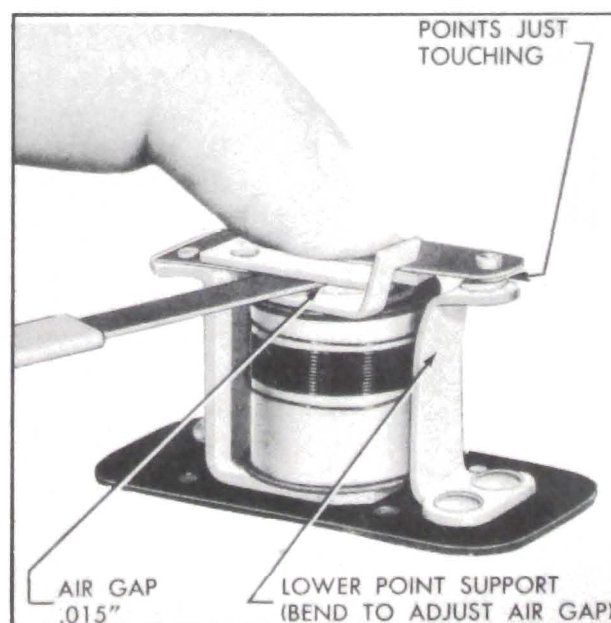

Figure 10-114—Horn Relay Air Gap Adjustment
3. Connect positive lead of ammeter to horn terminal and negative lead to battery terminal on cranking motor solenoid switch. See figure 10-114. NOTE: *Ammeter leads must be at least #10 gauge wire to avoid excessive voltage drop.*
4. Connect positive lead of voltmeter to horn terminal and negative lead to ground on horn collar. See figure 10-114.
2. Push relay armature down until contact points just touch, then check air gap between armature and end of core using feeler gauges. Air gap should be .015". Adjust gap to .015", if necessary, by bending the lower point support. See figure 10-114.